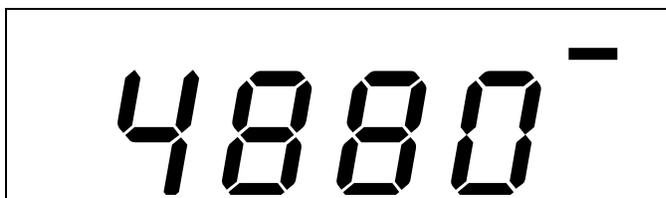

Figure 3-2
The front panel has a 5-digit liquid crystal display (LCD) as shown in Figure 3-2. Using the **Display** and **Total** control buttons, the LCD shows particle concentration readings in particles/cm³ (PT/CM³), or total particle count up to 99999 (PT). For more information on LCD display operation, see “Using the CPC Controls” in Chapter 5 and “Operating at Higher Concentrations” in Chapter 6.